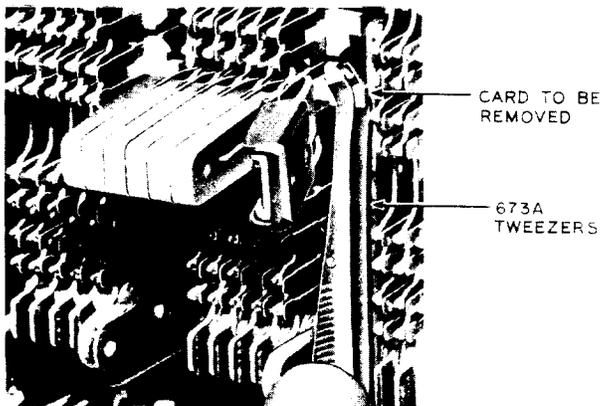

Fig. 9—Rotate Card to a Flat Position With Tweezers
(2) Grasp one end of the card with the 673A tweezers, as shown in Fig. 9, and rotate the card 90 degrees until it is lying flat. Withdraw the card from the spring assembly with the tweezers or the KS-7665 (485A) pliers at the right-hand side of the unit unless the card is broken, in which case remove each part from the side of the vertical unit associated with the respective part. Removal of the card will be facilitated if it is moved slightly toward the rear of the switch as it is being withdrawn.